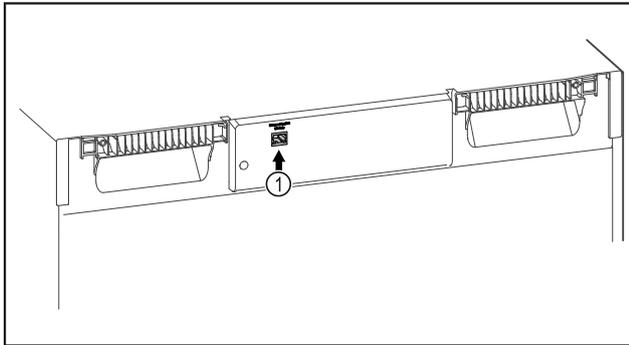

Fig. 119
- SmartModule Fig. 119 (1) is in use.